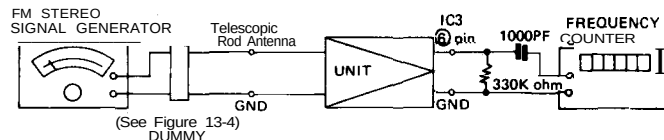

Figure 13-3
- As shown in Figures 13-3 and 13-4, make connection of instrument.